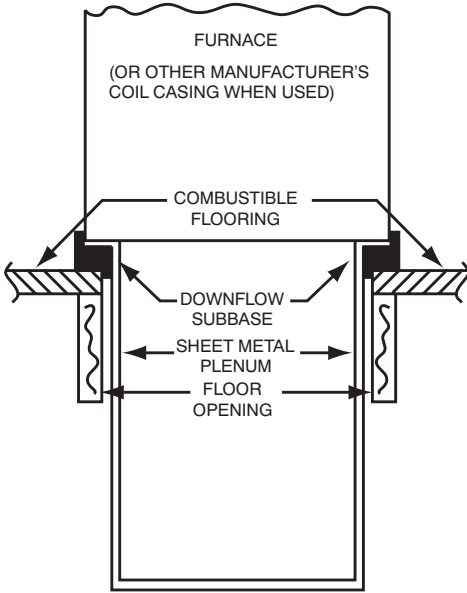

Fig. 23 - Furnace, Plenum, and Subbase Installed on a Combustible Floor
4. If downflow subbase is used, install as shown in Fig. 23.